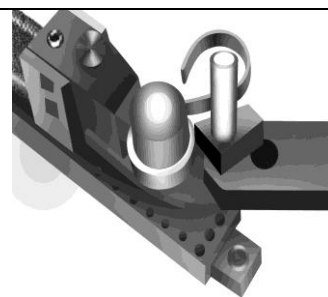

Figure 8
2. Put the Sharp Angle plate onto the short shaft on the handle as shown figure 8.